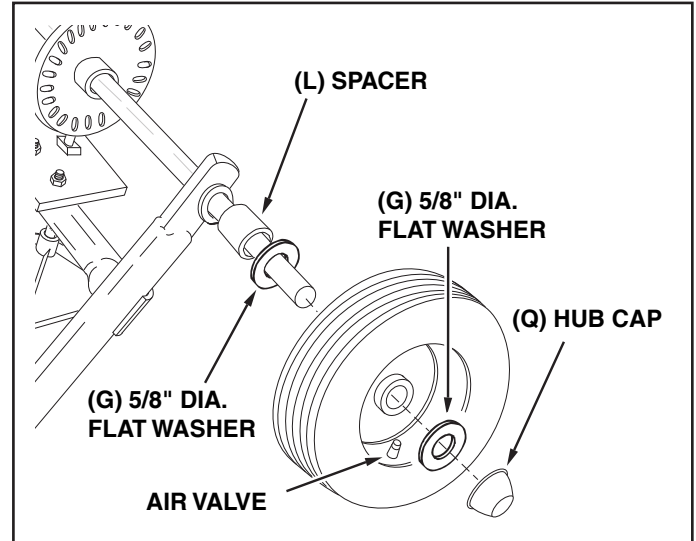

FIGURE 3
7. Select the end of the axle with no cross hole. Assemble a spacer (L), a 5/8" flat washer (G), a wheel (air valve facing out) and then another 5/8" flat washer (G) onto the axle. See figure 3.
8. Install a hub cap (Q) by tapping it carefully onto the axle with a hammer. See figure 3.